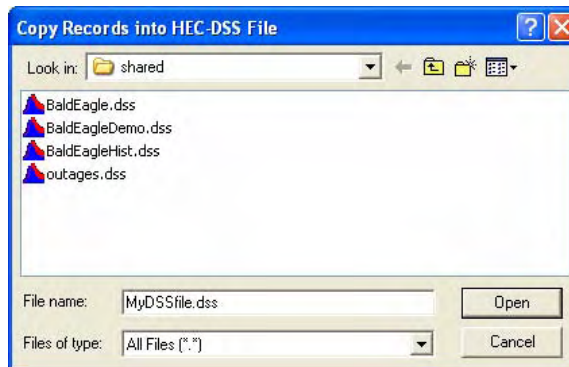

Figure E.17 HEC-DSSVue Copy Records into HEC-DSS File Dialog Box
1. Select the record(s) either by double-clicking on it or by highlighting it then clicking the **Select** button. From the **Utilities** menu, select **Copy Records**. The **Copy Records into HEC-DSS File** dialog box (Figure E.17) will open.